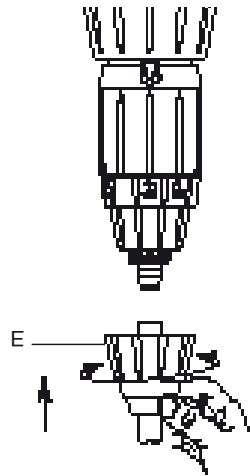

Fig. 8
- Unscrew the nut (Fig. 8-E) at the bottom of the injection assembly and put it onto the tube.